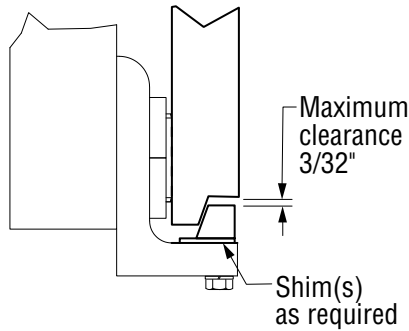

Figure 4-4, Lower Hook Clearance
9. Install the bolt-on lower hooks. Inspect clearance to the carriage on lower hooks. Adjust the lower hooks for a maximum clearance of $3/32''$ (see Figure 4-4). Tighten the bolts to **40-50 ft-lbs**.